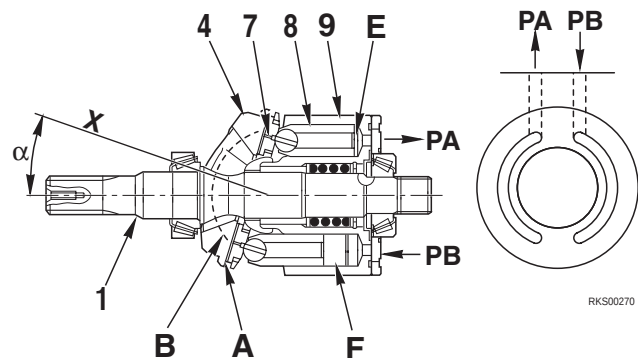

Fig. 1
- Cylinder block (9) rotates together with shaft (1), and shoe (7) slides on flat surface A. When this happens, rocker cam (4) moves along cylindrical surface B, so angle α between center line X of rocker cam (4) and the axial direction of cylinder block (9) changes. (Angle α is called the swash plate angle).
- Center line X of rocker cam (4) maintains swash plate angle α in relation to the axial direction of cylinder block (9), and flat surface A moves as a cam in relation to shoe (7). In this way, piston (8) slides on the inside of cylinder block (9), so a difference between volumes E and F is created inside cylinder block (9). The suction and discharge is carried out by this difference F-E. In other words, when cylinder block (9) rotates and the volume of chamber F becomes smaller, the oil is discharged during that stroke. On the other hand, the volume of chamber E becomes larger, and as the volume becomes bigger, the oil is sucked in (Fig. 1).